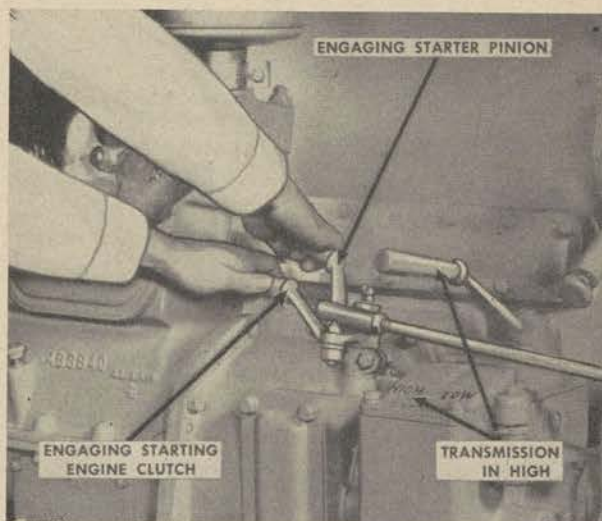
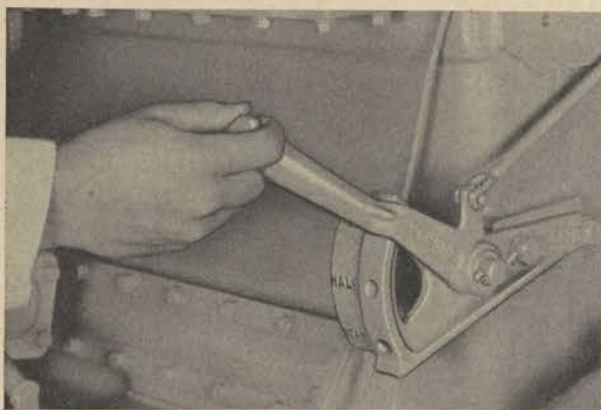

Figure 71. Engaging starting engine.
Figure 72. Compression release lever in run position.
c. STARTING CATERPILLAR DIESEL. (1) Disengage the starting engine clutch, figure 71, by pushing the lever in toward the Diesel engine.
(2) Engage starter pinion by pulling out on the starter pinion control lever, figure 71. If the pinion does not engage readily, partially engage the starting engine clutch for an instant, allowing the teeth to mesh with the flywheel gear.
(4) Engage the starting engine clutch by pulling out the lever, figure 71, as far as it will go.
(5) During cold weather, or at any time that oil "drag" in the Diesel engine, slows down the starting engine so that the normal cranking speed cannot be reached, disengage the starting engine clutch and shift the starting engine transmission lever, figure 71, into LOW. Engage the starting engine clutch and after the oil "drag" has been loosened, move the compression release lever to RUN position as shown in figure 72. Allow the starting engine to turn the Diesel engine for several minutes, since the heat of compression will assure easy starting. Now move the compression release lever to START position, disengage the starting engine clutch, shift the starting engine transmission to HIGH, and engage the clutch.